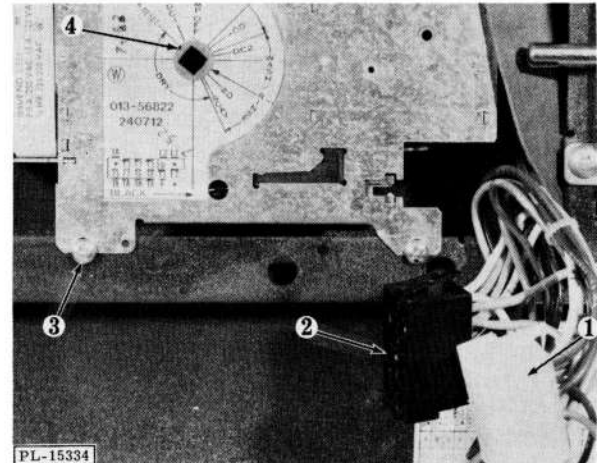

Fig. 15
TIMER (KDP-18, "PATRICIAN") (Fig. 15)
The KDP-18 timer has a direct drive motor and also a rapid advance motor. The timer has a dial face printed around the timer socket (4, Fig. 15). The notch on the socket points to the part of the
2. Remove the four timer bracket retaining screws (3, Fig. 15).
3. Remove timer and disconnect the electrical plugs (1, Fig. 15) (white) and (2, Fig. 15) (black).